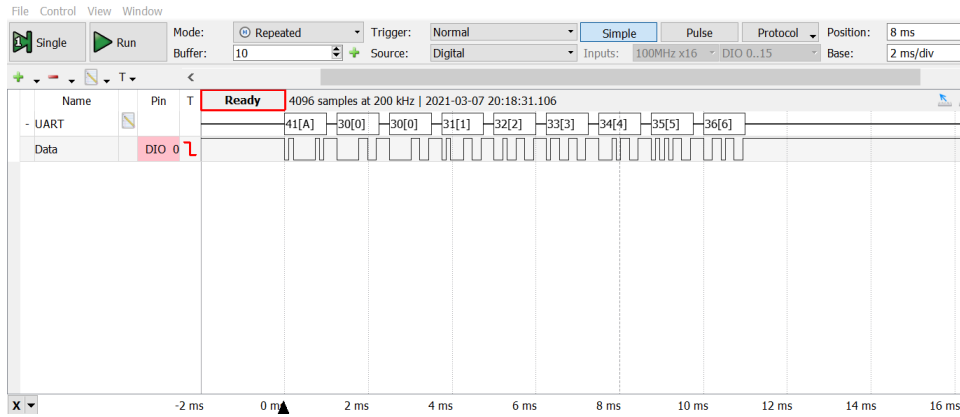

Figure 4: Logic Analyzer Display.
The logic analyzer can be used to display digital signals. It can display bus values (not used here) and multi-bit serial signals. Figure 4 shows the transmitted serial data using a configuration called “UART.”
5. Screen captures of the AD2 logic analyzer and protocol analyzer similar to those in Figures 4 and 5 demonstrating the operation of your interface. They should both show your full BCIT ID.